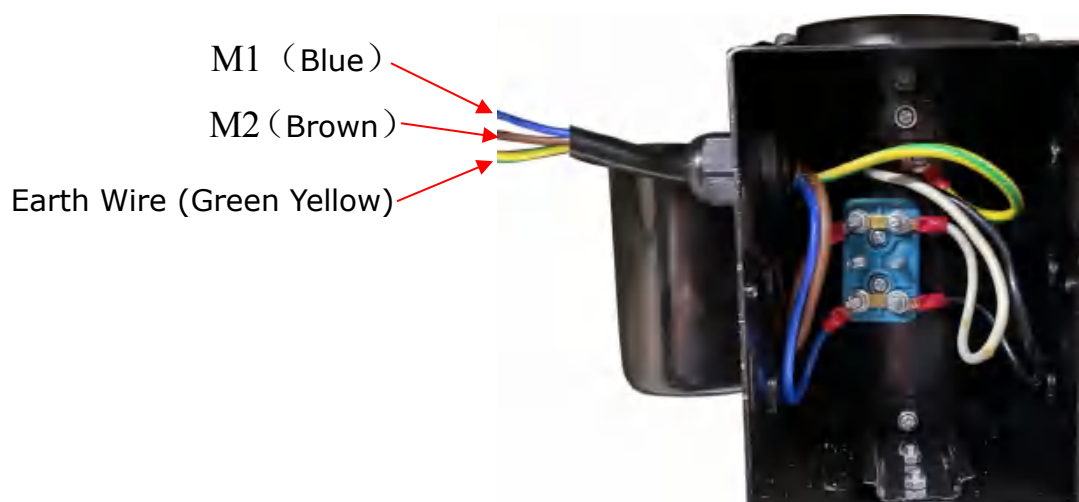

Fig. 42
3.2 220V Wire connection of hydraulic power unit (See Fig. 42).